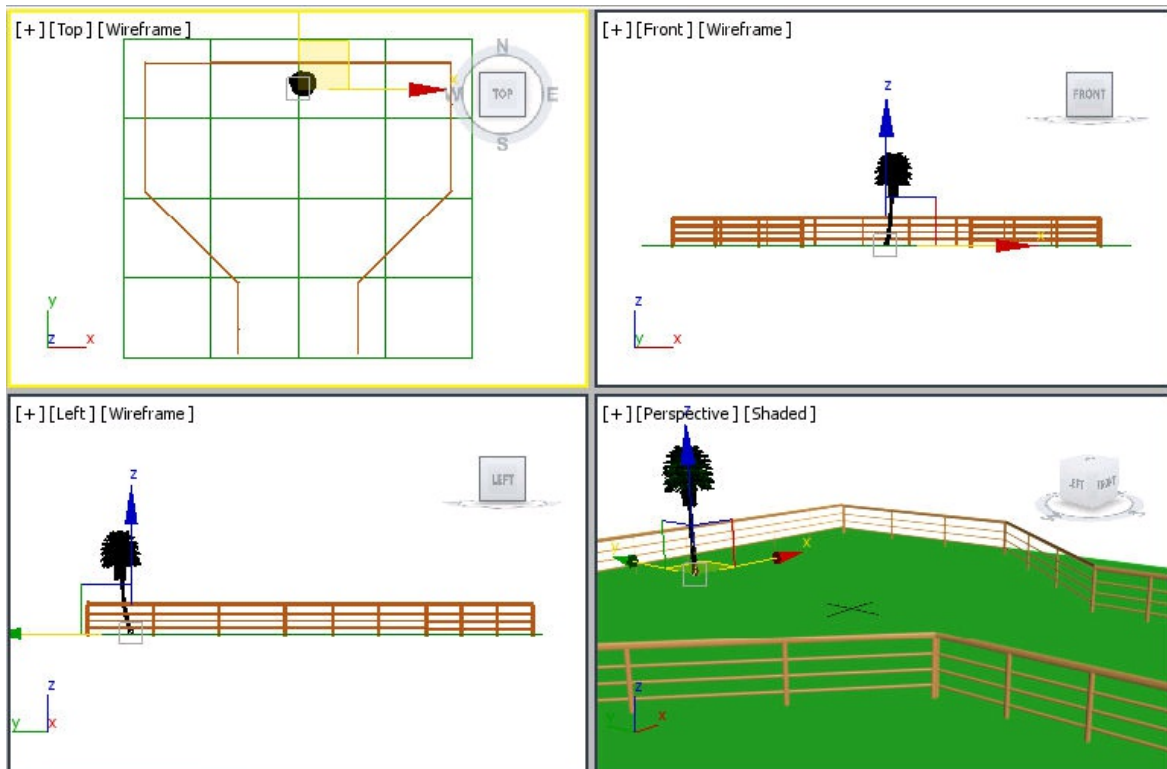

Figure 4-63 *Alignment of tree01 in viewports*
6. In the Top viewport, choose the **Select and Move** tool and move *tree01* toward *railing01* in all viewports, as shown in Figure 4-63.